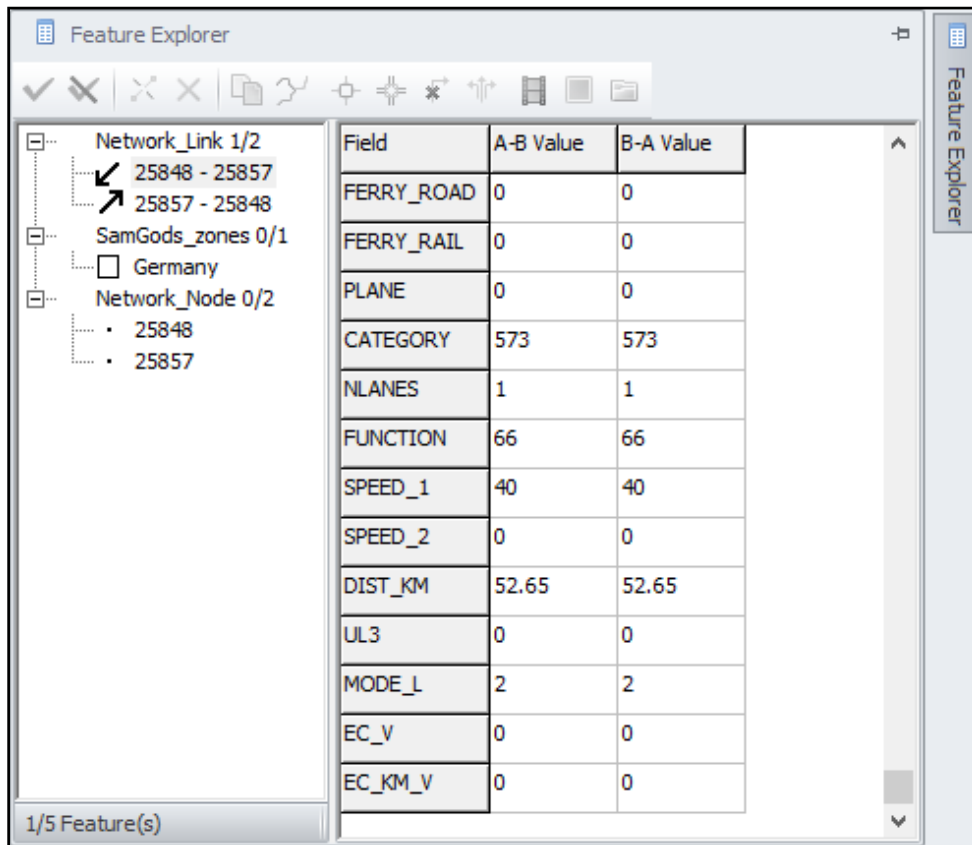

Figure 81 Feature explorer window
- 12) In the Feature Explorer window (see Figure 81), specify the following values. In order to assign the same values to both directions (A to B and B to A), make sure that both ways are selected in the Feature Explorer window.